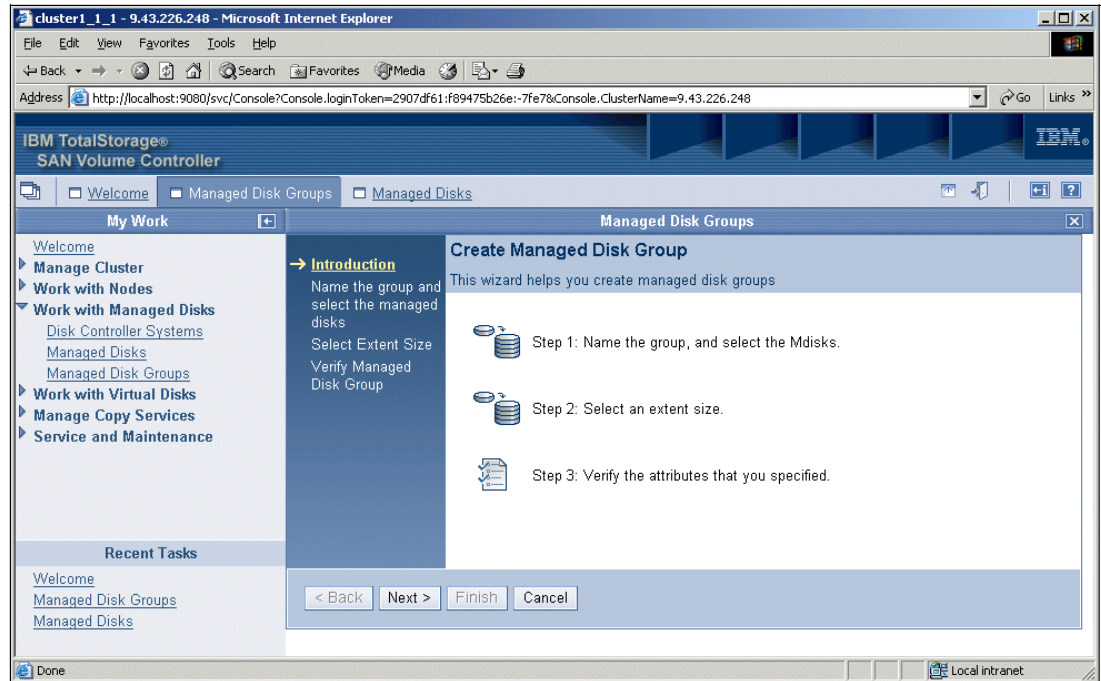

Figure 9-40 Create MDG wizard
2. On the Create Managed Disk Group wizard panel (Figure 9-40), click **Next**.